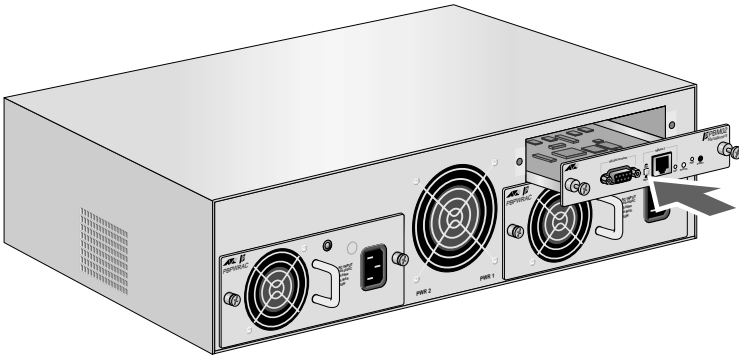

Figure 23 Installing a Management Module
4. Slide the management module gently into place, seating the module's connectors into the chassis' backplane. See Figure 23.